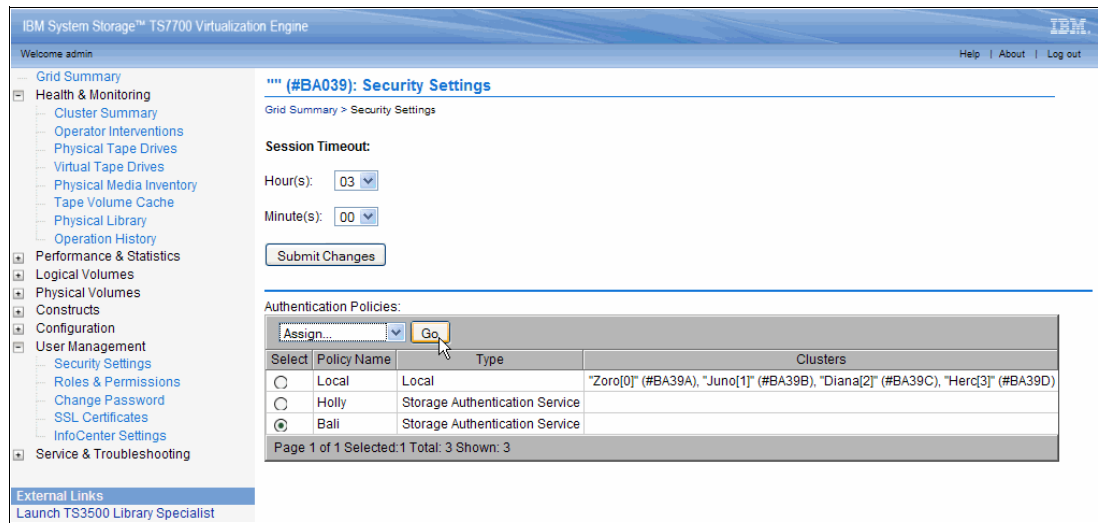

Figure 8-71 Assigning Storage Authentication Service Policy to Grid Resources
- ▶ In the Authentication Policies table, select **Assign** from the Select Action drop-down menu, as shown in Figure 8-71 on page 512.